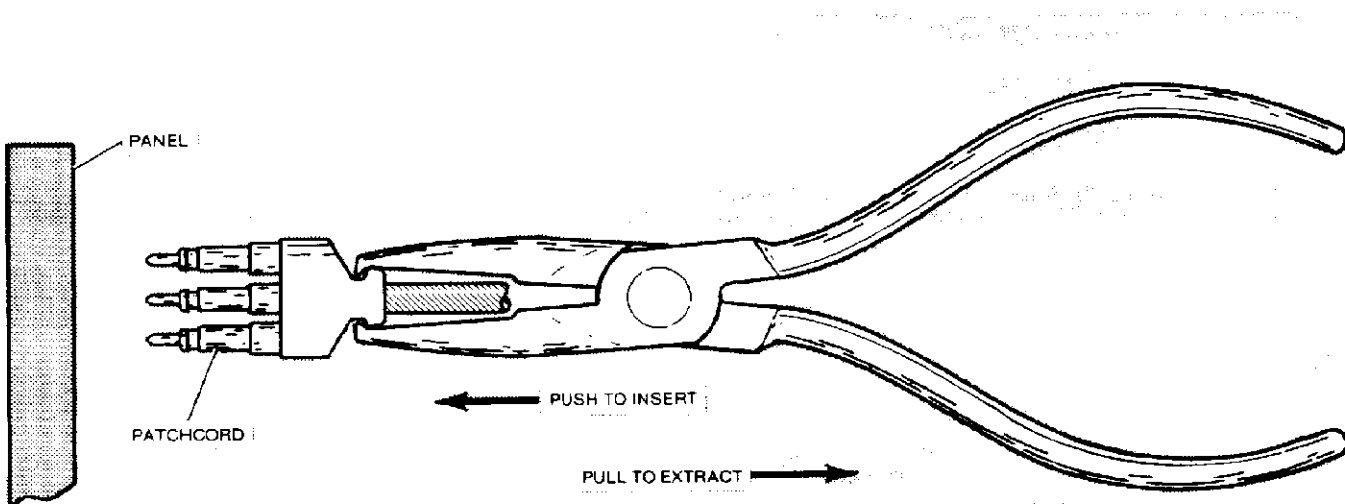

Figure 2
- (a) Grip notched shroud of patchcord. See Figure 2.